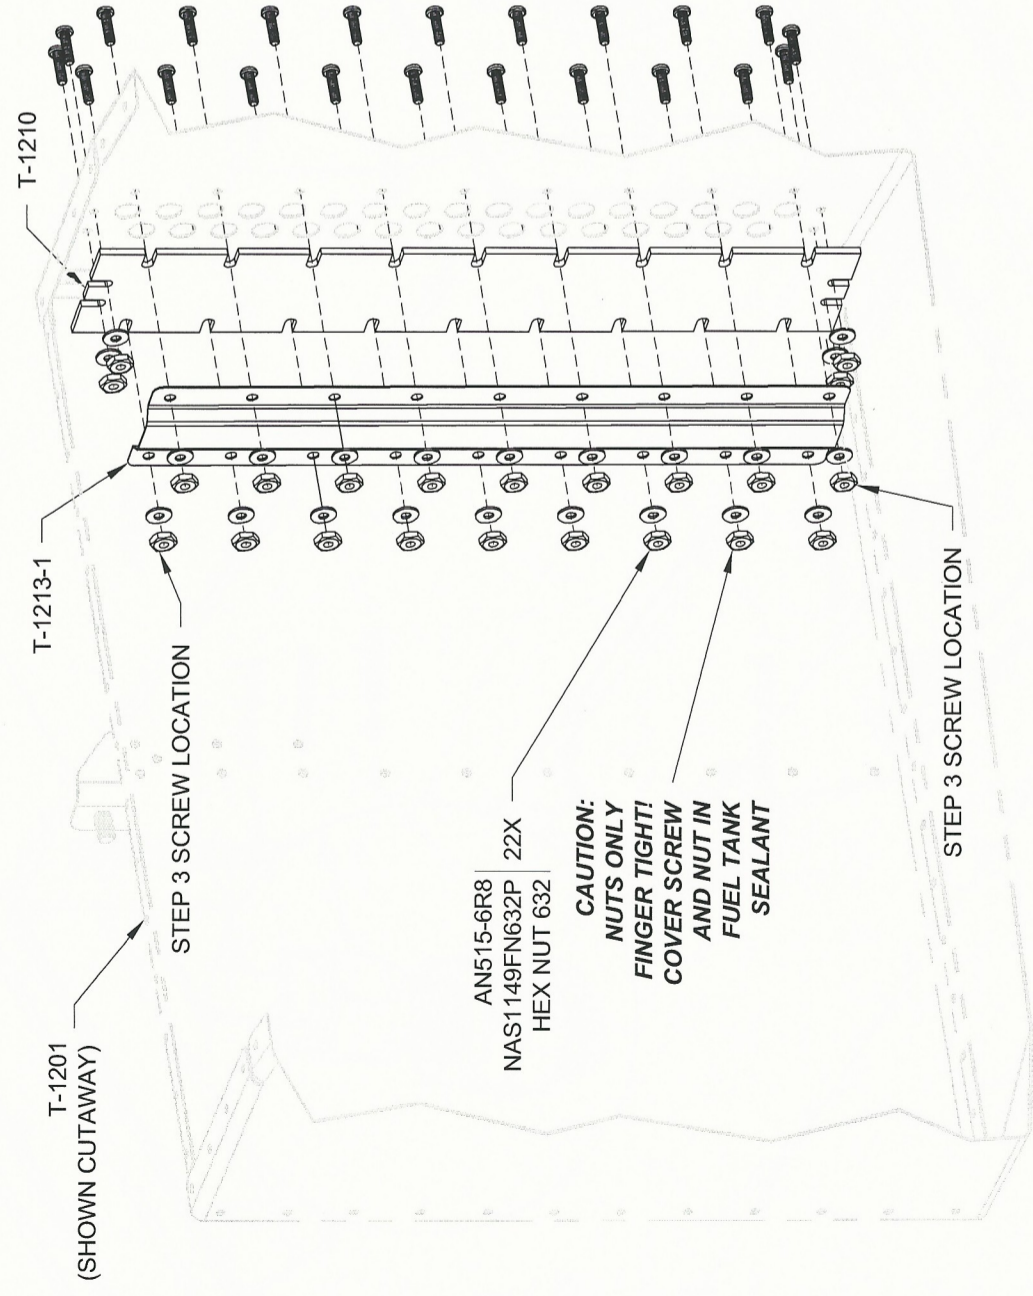

FIGURE 1: INSTALLING THE FUEL WINDOW
Step 3: Install two screws into the T-1201 Main Tank Skin in the locations called out in Figure 1. Tape over the screw heads to hold them in place then tip the tank on its side with the screw heads against a flat surface.